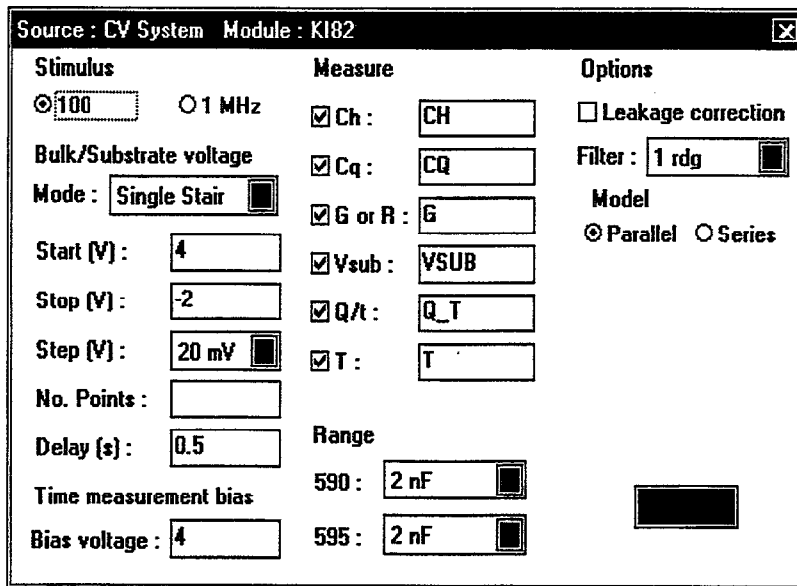

Figure 6 Measurement Setup Parameter Window
7. Click on the **KI82 OUT** icon; the measurement parameter setup window will appear. (See Figure 6.) You may now select the proper measurement parameters. The parameter window should appear like the one shown in the Figure 6. Refer to the Metrics ICS and Keithley C-V driver manuals for full details on all setup parameters.